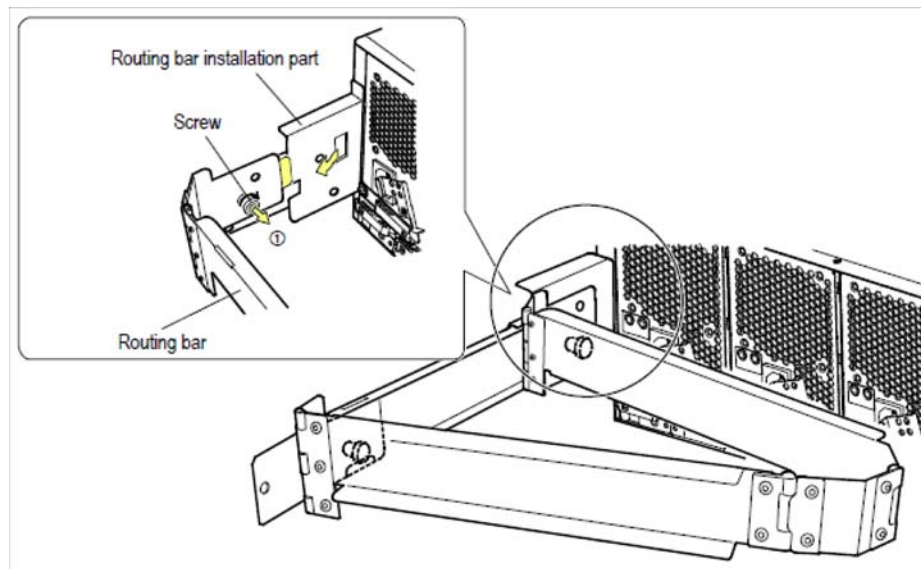

Figure 15-6: Removing the routing bar
- d. Pull the screws of the stopper in the direction of arrow ?in Figure 15-6 on page 15-22 and remove the cable routing from the rails.